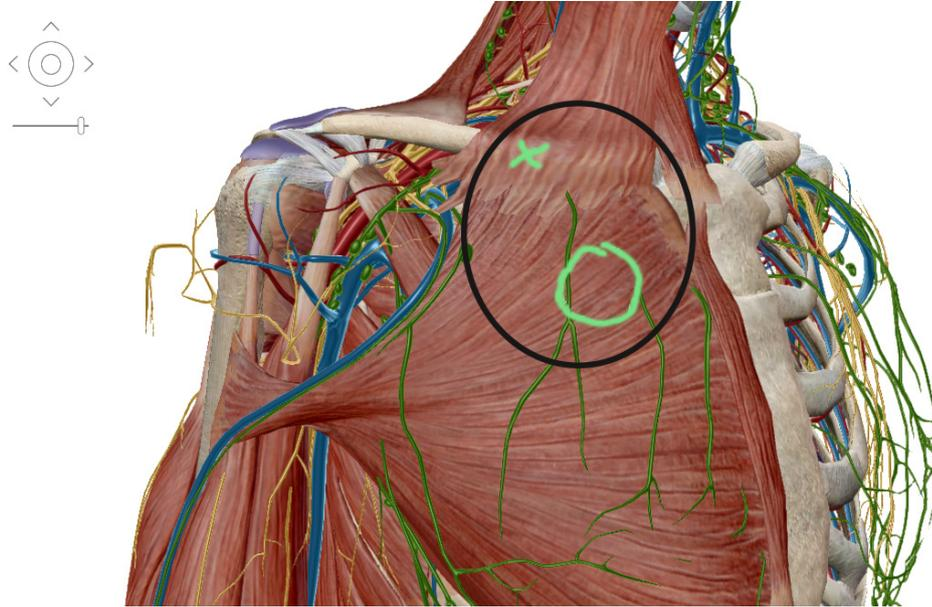

Fig. 4-35 Visible Body - with marked region
- Now draw your markings on the figure (see **FIG. 4-35**).